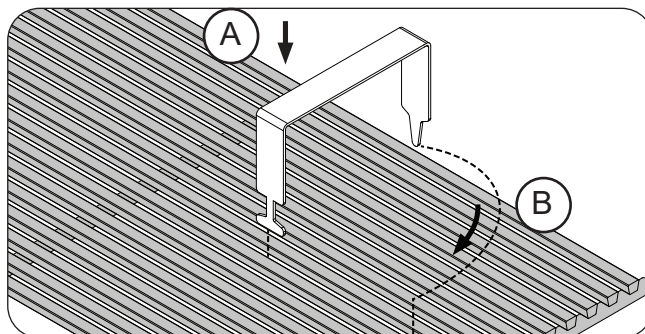
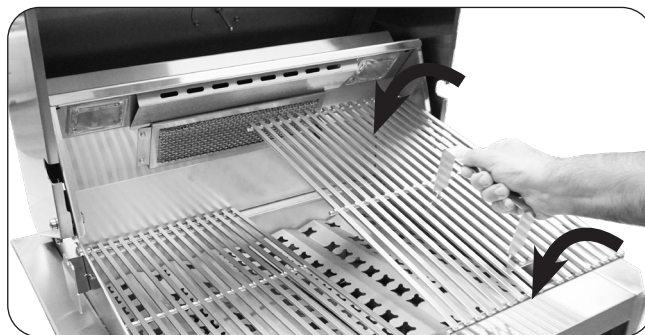

Fig. 29-2 Install cooking grids
Fig. 29-3 Install cooking grids
1. With the prongs facing downward, insert the notched-end of the lifter between two grid rods, then rotate, as shown in Fig. 29-2, A & B.
2. Insert the rear pointed-end of the lifter between the same two rods (Fig. 29-2, B) and carefully lift the cooking grid and place onto the front and rear grid rests of the grill (see Fig. 29-3). Repeat for all other cooking grids.